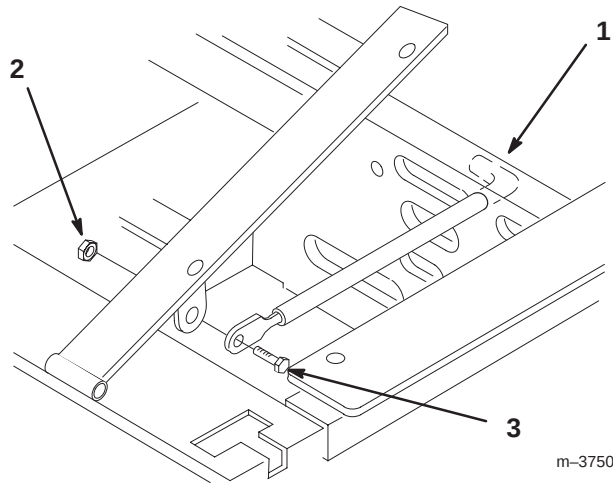

Figure 3
1. Tilt seat up. Remove locknut (5/16 inch) from bolt attaching seat retaining rod to seat frame (Fig. 3).
2. Remove retaining rod from seat and insert the L shaped end of the rod into the hole directly above the left-side hydraulic pump (Fig. 3).
3. Place the seat retaining rod to the outside of the mounting tab of the seat frame and secure with one bolt (5/16 x 1 inch) and locknut (5/16 inch) (Fig. 3).